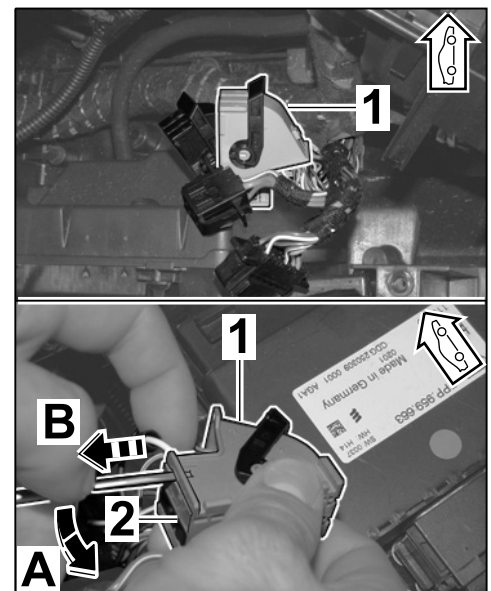

Figure 20
- 3.2.2 Release and remove socket strip (grey) in the connector housing (blue, 42-pin, control unit for rear-end electronics) (⇒ *Figure 20*).